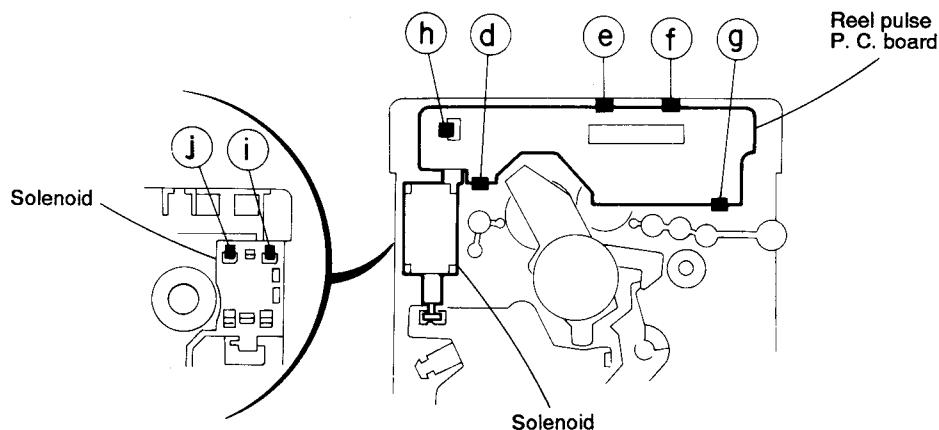

Fig. 5-27
■ Removing the Reel Pulse P.C. Board and Solenoid (See Fig. 5-27)
1. Remove the five pawls (④, ⑤, ⑥ and ⑧, ⑨) retaining the reel pulse P.C. board.
2. From the surface of the reel pulse P.C. board parts, remove the two pawls ⑩ and ⑪ retaining the solenoid.